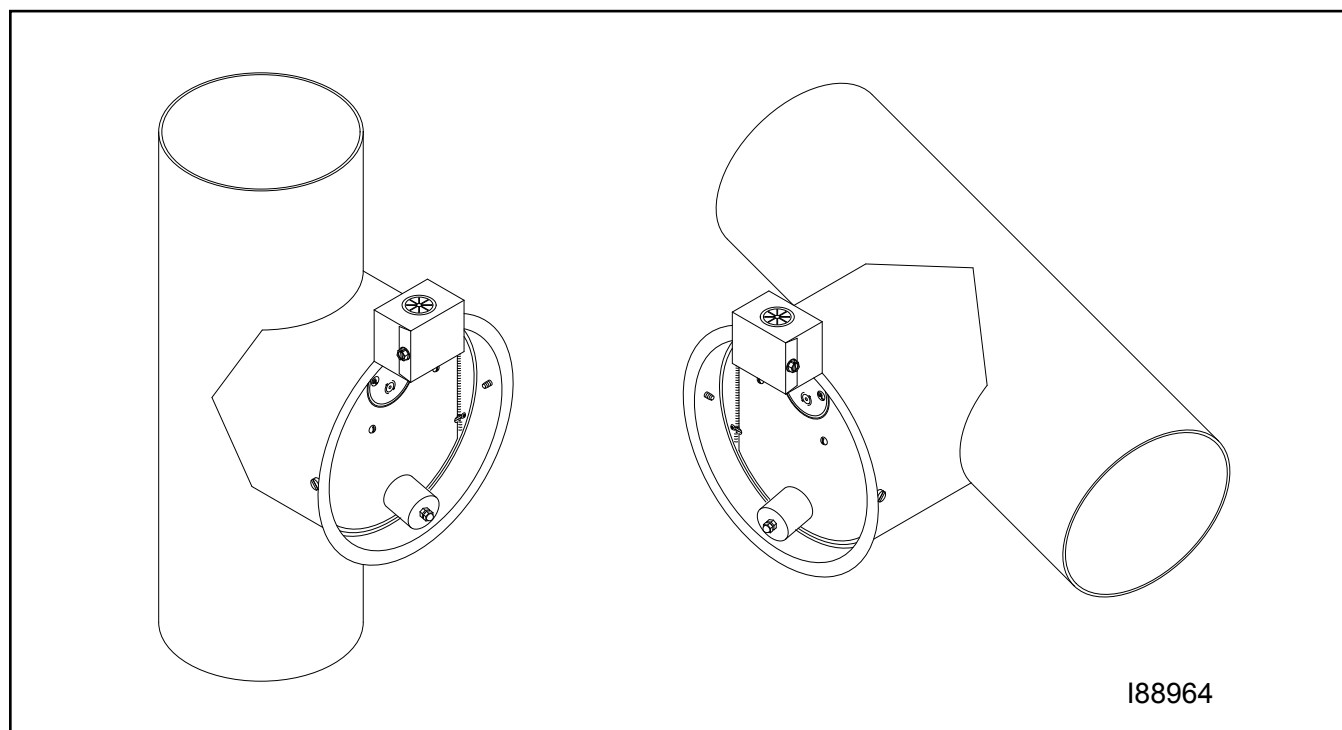

Figure 4O - Stack Safety Switch Installed on the Barometric Damper
3. Position the stack safety switch over the lip of the barometric damper as shown in Figure 4O.